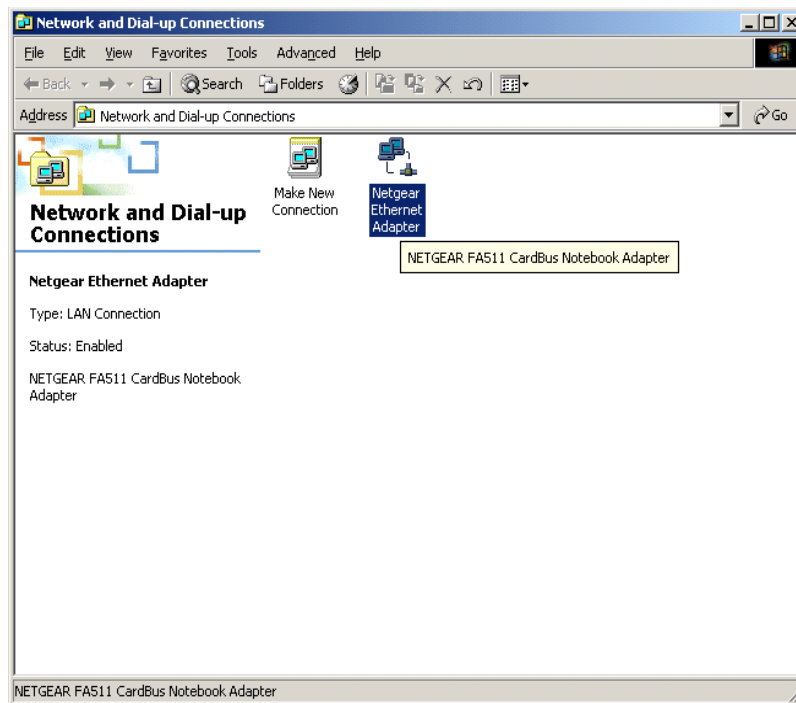

Figure A-1.2
2. Double-click the icon for the **Ethernet Adapters** (see Figure A-1.2). In the example below, the adapter is manufactured by **Netgear** and is a 10 Mbps Ethernet Local Area Network interface card. Your screen, procedure, and options may be different for other Ethernet Cards. The ASOS firmware is transmitted to the CPU using this card.